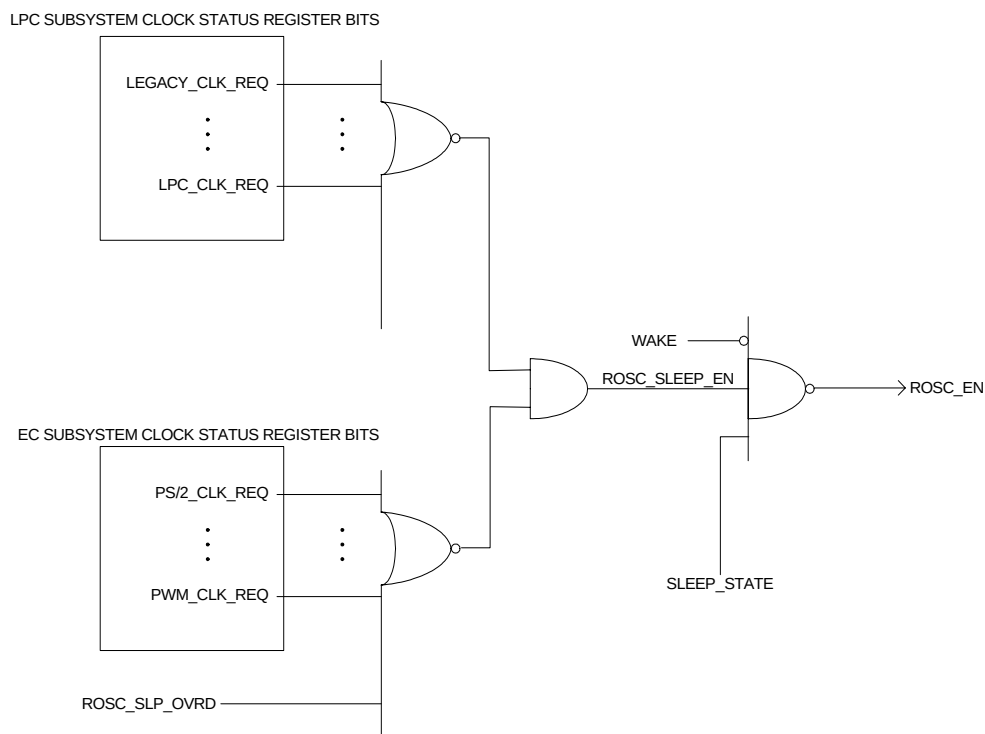

Figure 4.5 64.52 MHz Ring Oscillator Controls
The **64.52 MHz Ring Oscillator** can only be controlled by the EC using the Power Management Interface. As illustrated in Figure 4.5 and described in Table 4.8, the **64.52 MHz Ring Oscillator** remains running whenever a single block "Core Clock Required Status" output is asserted, the **ROSC\_SLP\_OVRD** is asserted, **SLEEP\_STATE** is not asserted, or when **WAKE** is asserted. The **64.52 MHz Ring Oscillator** will only stop when all block "Core Clock Required Status" outputs and the **ROSC\_SLP\_OVRD** are not asserted, **WAKE** is not asserted and **SLEEP\_STATE** is asserted.
**Note 4.15** ROSC\_SLEEP\_ENABLE is illustrated in Figure 4.5 and indicates the status of all the "Core Clock Required Status" outputs defined in the Generic Block Clocking Model and
**Note 4.18** ROSC\\_EN is the 64.52 MHz Ring Oscillator enable control illustrated in Figure 4.5.